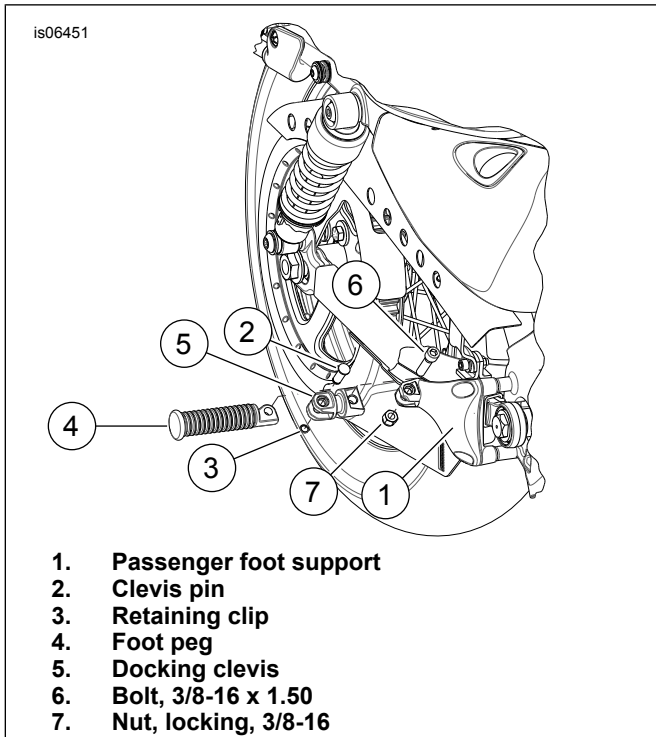

Figure 1. Docking Clevis Installation
4. See Figure 1. Install docking clevis (5) to each passenger foot support (1) using the hardware found in the saddlebag kit (6 and 7). Tighten nut to 13.6–21.7 N·m (10–16 ft·lbs).
5. Install passenger footpeg (4) to docking clevis (5) per instruction in passenger foot support kit using pins (2) and retaining clips (3).